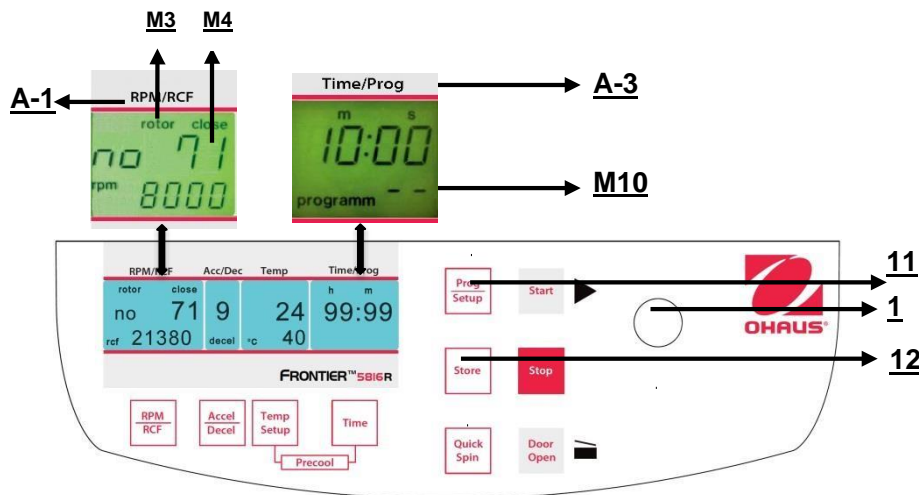

Figure. 28
To recall stored programs press the key **"Prog/Setup"** (11) (refer to figure 28) while the lid is already closed. Inside the display **"Time/Prog"** (A-3), **"programm --"** (M10) appears. The desired program number can be pre-selected with the adjusting knob (1).
To leave the program mode just press the key **"Prog/Setup"** (11) (refer to figure 28). Then inside the display **"Time/Prog"** the word **"programm"** appears.